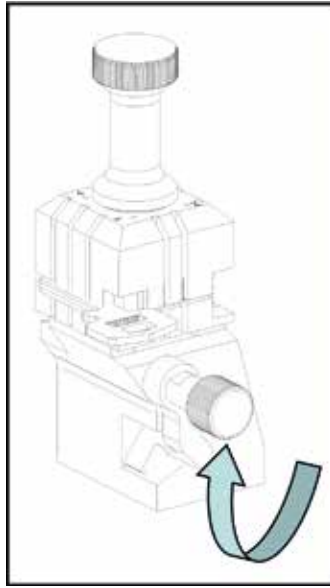

FIG. 14
1. Neck limit (C): This is the most common. The key is limited by means of a mechanical limit of the jaw. (Fig. 14)